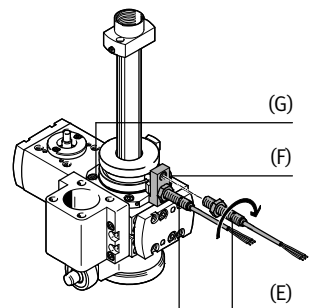

Fig. 7
The cylinder holder can also be mounted on the sides (A) and (C) of the EHMB. To attach to the side (A), the front cover must be removed and the sensor holder (only for EHMB-20 → Fig. 7) must be modified.